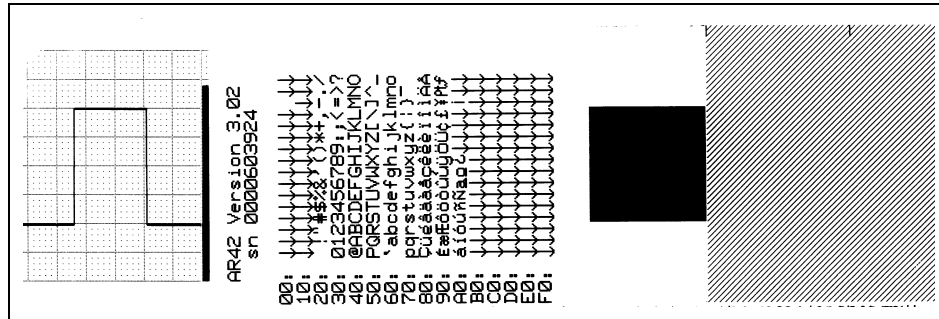

FIGURE 2-13 Recorder Test Strip
4. Verify that the character set is printed as shown in FIGURE 2-13.